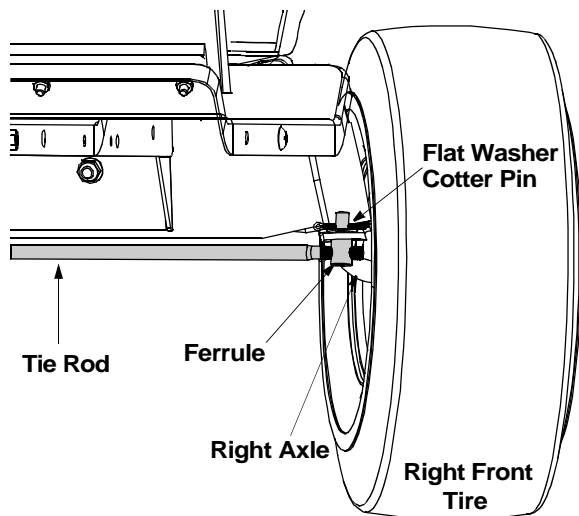

Figure 17
- Locate the ferrule at the right end of the tie rod, just to the rear of the right, front tire of tractor. See Figure 17.